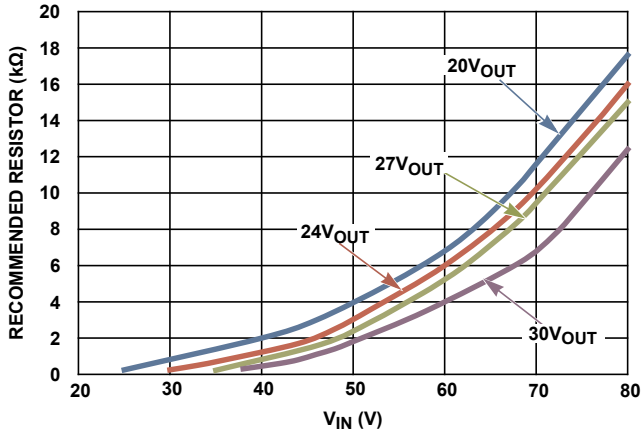
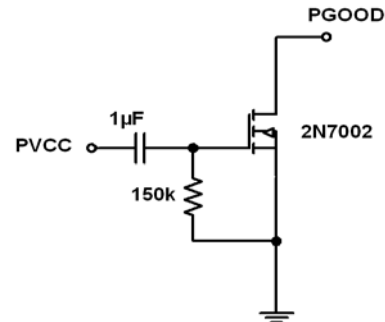

FIGURE 23. RECOMMENDED EXTERNAL RESISTOR VALUE FROM BOOT TO PVIN
FIGURE 25. PGOOD DELAY CIRCUIT
The internal bootstrap diode connected to the PVCC pin provides charge for the internal bootstrap capacitor. For above  $12V_{OUT}$  applications, a resistor connecting between BOOT pin and  $V_{IN}$  pin is recommended for certain conditions. Refer to Table 3. This resistor provides additional bootstrap charge introduced from  $V_{IN}$ , which can ensure the gate drive circuit functions properly at very light load. See Figure 23 for the recommended external resistor values at  $20V_{OUT}$ ,  $24V_{OUT}$ ,  $27V_{OUT}$ , and  $30V_{OUT}$  conditions. A minimum 0.25W power rating is recommended for this resistor.
For  $>12V_{OUT}$  applications where  $V_{IN}$  power-up/down (module self enable/disable) is required and PGOOD signal is utilized, a PGOOD delay circuit and a  $1k\Omega$ ,  $1W$  rating dummy load resistor are recommended. The PGOOD delay circuit is shown in Figure 25. Note when the dummy load resistor is used, the resistor between  $V_{IN}$  and BOOT (Figure 23) is no longer required. During  $V_{IN}$  power-up (module self enable) for  $>12V_{OUT}$  applications at very light load current, without such a delay circuit,  $V_{OUT}$  may have a drop after initially reaching the target due to the lack of bootstrap charge. With such a delay circuit, the PGOOD signal can be delayed for 250ms. For applications of  $\leq 12V_{OUT}$ , the PGOOD delay circuit is not required.
- Refer to Figure 23 for  $V_{IN}$ -BOOT resistor ( $R_{BOOT}$ ) value.